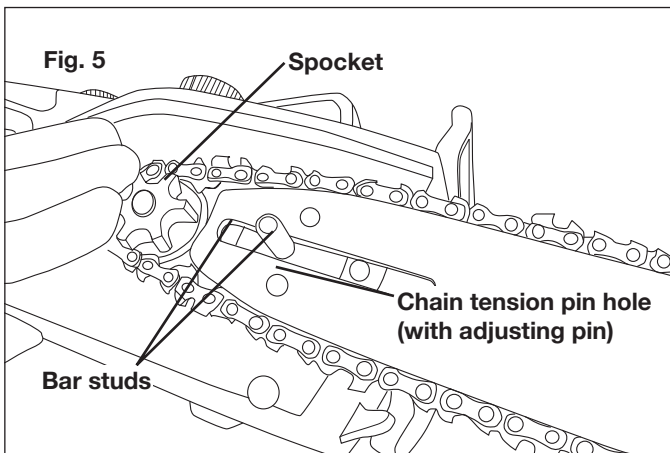

Fig. 5
- Hold the chain in position on the bar and place the loop around the sprocket. Fit the bar flush against the mounting surface so that the bar studs are in the long slot of the bar and the adjusting pin is in the chain tension pin hole (Fig. 5).